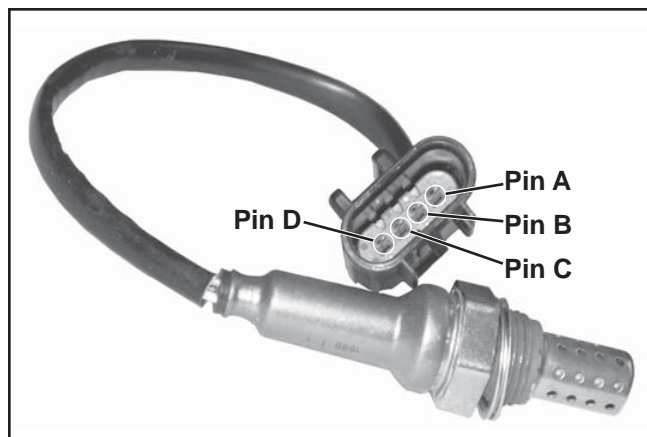

Figure 5-9. Oxygen Sensor.
3. If the sensor is at room temperature, measure between the signal leads, the black wire (Pin C) and grey wire (Pin D) attached to the sensor (see Figure 5-9). If the resistance is less than one megohm, the sensor has an internal short.